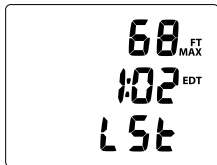

Fig. 96 - FREE SURF ALT 1
**FREE SURF ALT 1**, information includes (Fig. 96) -